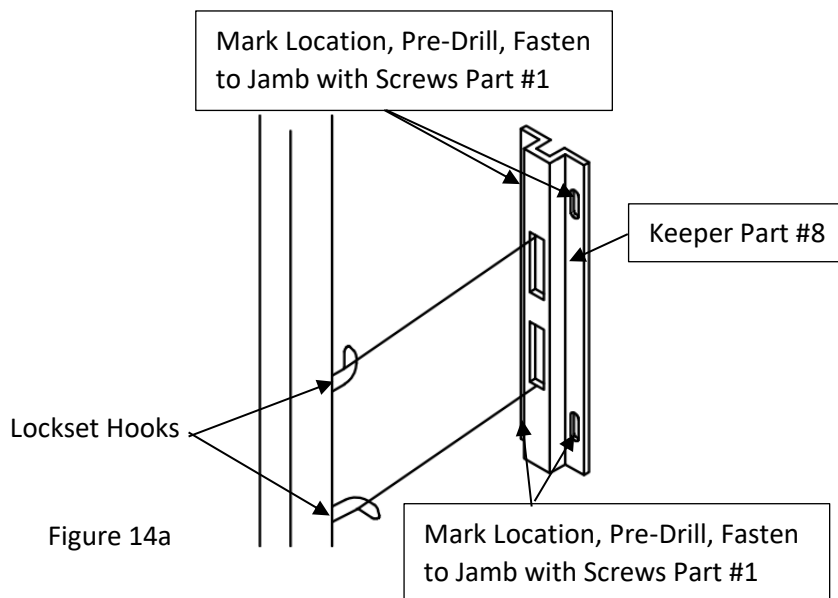

Figure 14a
17. After the final roller adjustments, install the keeper (Part #8) into the lock side jamb (Part #6) by aligning with the lockset hooks on the panel and marking the location of the keeper's four screw holes onto the jamb. Next, pre-drill holes in the jamb at the marked locations using a size 1/8" - 3/16" drill bit. Lastly, fasten the keeper to the jamb with screws (Part #1) as shown in figure 14a (use sealant to lubricate screws). After the keeper has been installed, adjust the throw on the hooks of the lockset to ensure a tight fit when the door is closed and locked by turning the adjustment screw located between the hooks shown in figure 14b.